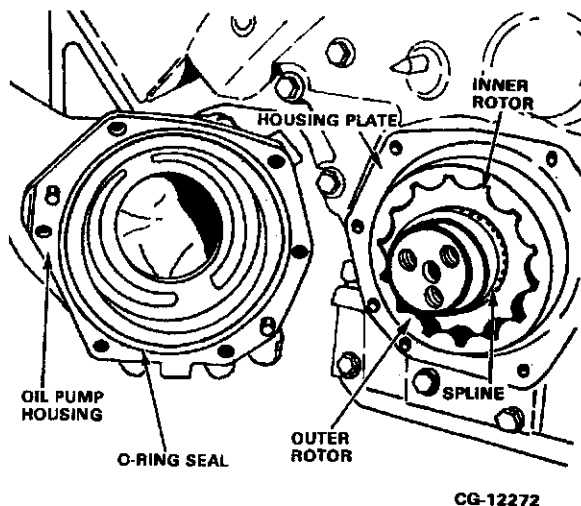

Figure 9.7. Remove Oil Pump Housing
4. Remove the oil pump housing with O-ring seal from the front cover. Refer to Figure 9.7. Discard the O-ring seal.